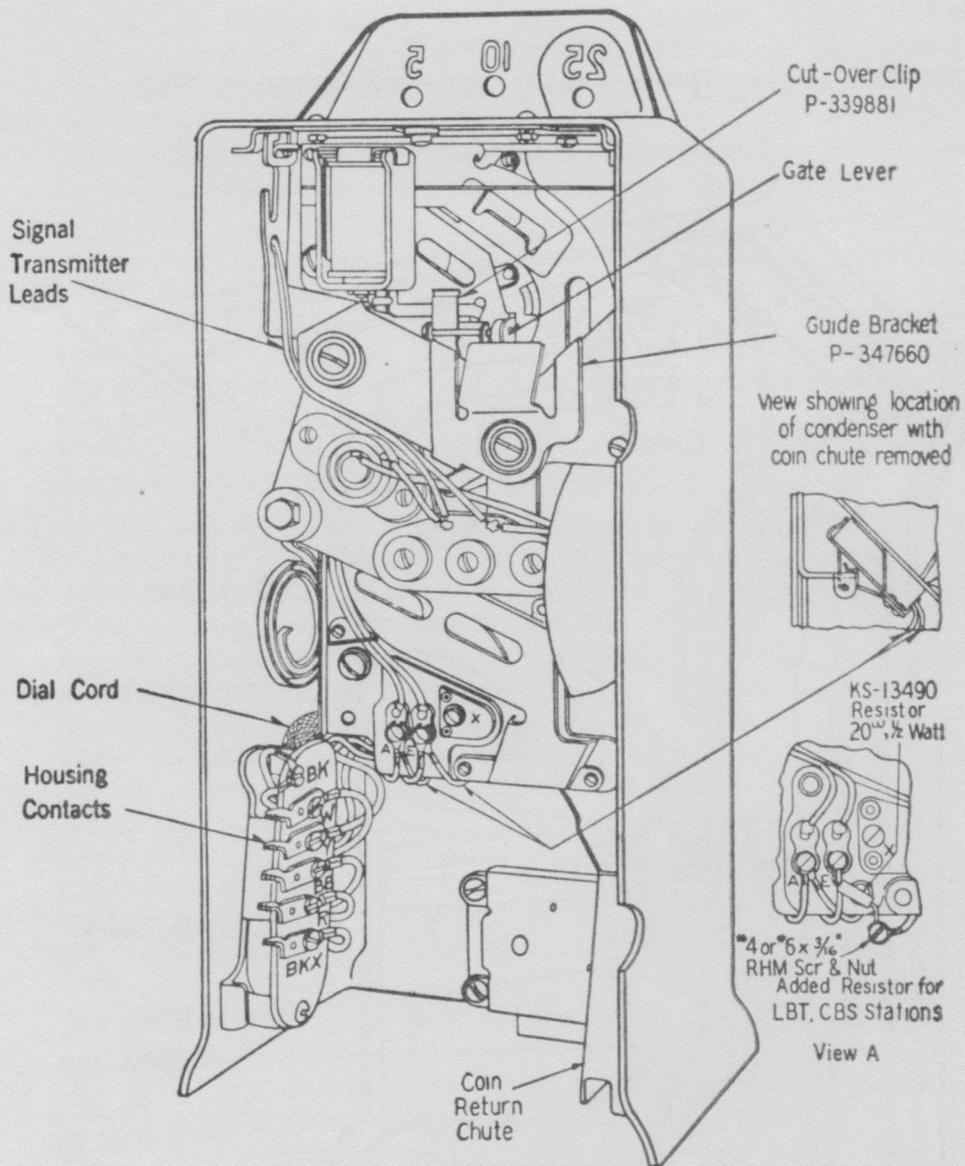

Fig. 1—Upper Housing—191-Type Coin Collector
(c) If the nickel is on the trap, around the relay or stuck on quarter runway return or remove coin. Then manually hold in the gate lever roller on chute as far as it will go, with upper housing vertical, and deposit nickel. Make test five times. If the nickel is **not ejected from the chute through the open gate each time, or sticks in the chute anytime, replace the coin chute**. If the nickel is ejected through gate and does not stick in chute, adjust the gate operating arm on the switchhook downward approximately 1/16" with the aid of long nose pliers. Check that bracket P-347660 is in place as shown on Fig. 1. Lock upper housing in place on coin collector and observe that switchhook comes to a full stop downward due to weight of hand set when placed on switchhook. Repeat the tests in 2.01. If it fails repeat the above adjustment and tests.
- (a) If the nickel is stuck in the chute at the first gate, check that the cut-over clip is present and is not distorted. The cut-over clip should be of the type 3/8 inch wide, should be located against the left-hand gate bearing lug as shown in Fig. 1, and should firmly hold the arm which extends from electromagnet armature toward the back of the coin chute, with the bent-over tab on the arm extending into the coin chute. If necessary adjust or replace cut-over clip and repeat test in 2.02. If this does not correct the sticking, replace the coin chute and repeat all tests.
(d) Reconnect coin chute in accordance with connection diagram in Section C64.236 and dress cording as in Fig. 1 of this section.